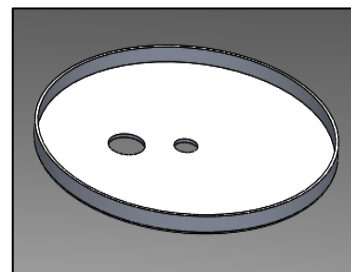

FIG. 4 - CANOPY
- a. CANOPY (as shown in FIG. 4)